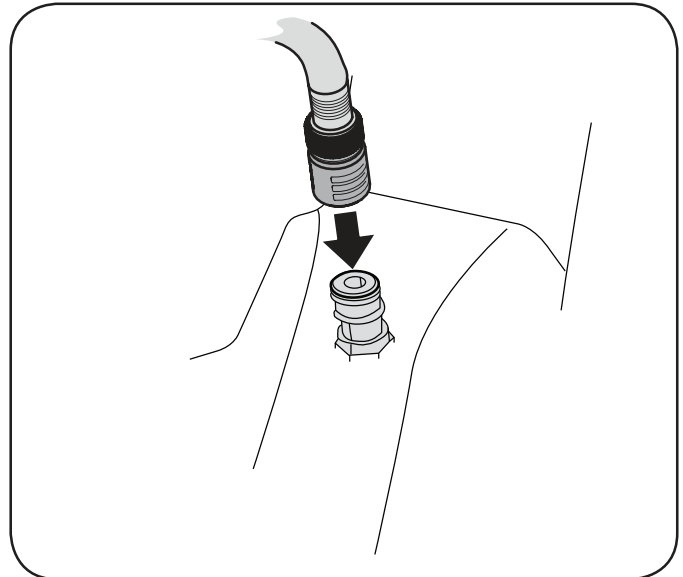

Figure 12
3. Attach the hose coupler to the water port on your deck's surface (Figure 12).